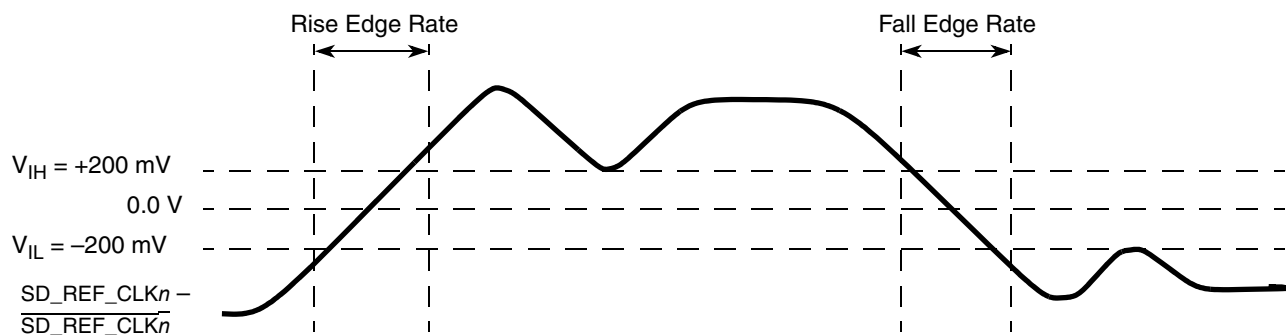

Figure 41. Differential Measurement Points for Rise and Fall Time
waveform is not referenced to ground. See Figure 41, “Differential Measurement Points for Rise and Fall Time,” as an example for differential waveform.
- Measured from -200 mV to +200 mV on the differential waveform (derived from SD_REF_CLK n minus $\overline{\text{SD_REF_CLK}}_n$). The signal must be monotonic through the measurement region for rise and fall time. The 400 mV measurement window is centered on the differential zero crossing. See Figure 41.